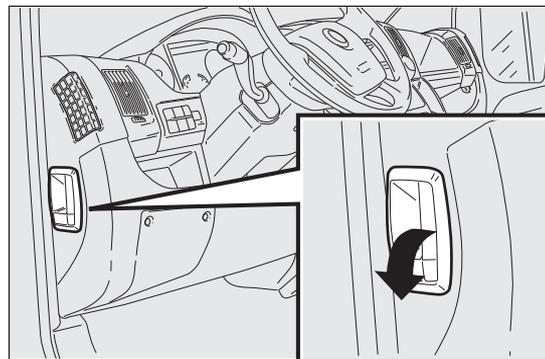

fig. 126
- pull the lever fig. 126 in the direction indicated by the arrow;